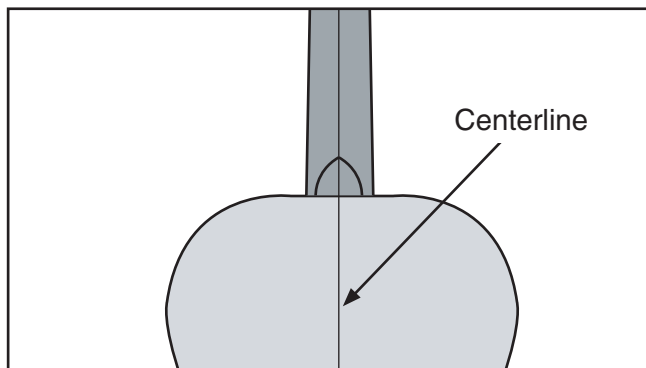

Figure 3. Marking the centerline of the guitar body and neck.
3. Insert the dowels and align the centerlines (see **Figure 3**).